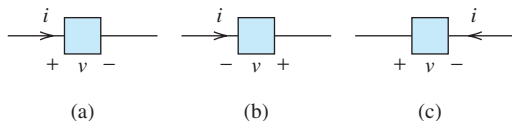

FIGURE P2.49 Circuit for Problem 2.49.
2.49 (A) Identify the passive and active devices in Figure P2.49, and compute the power absorbed or supplied.